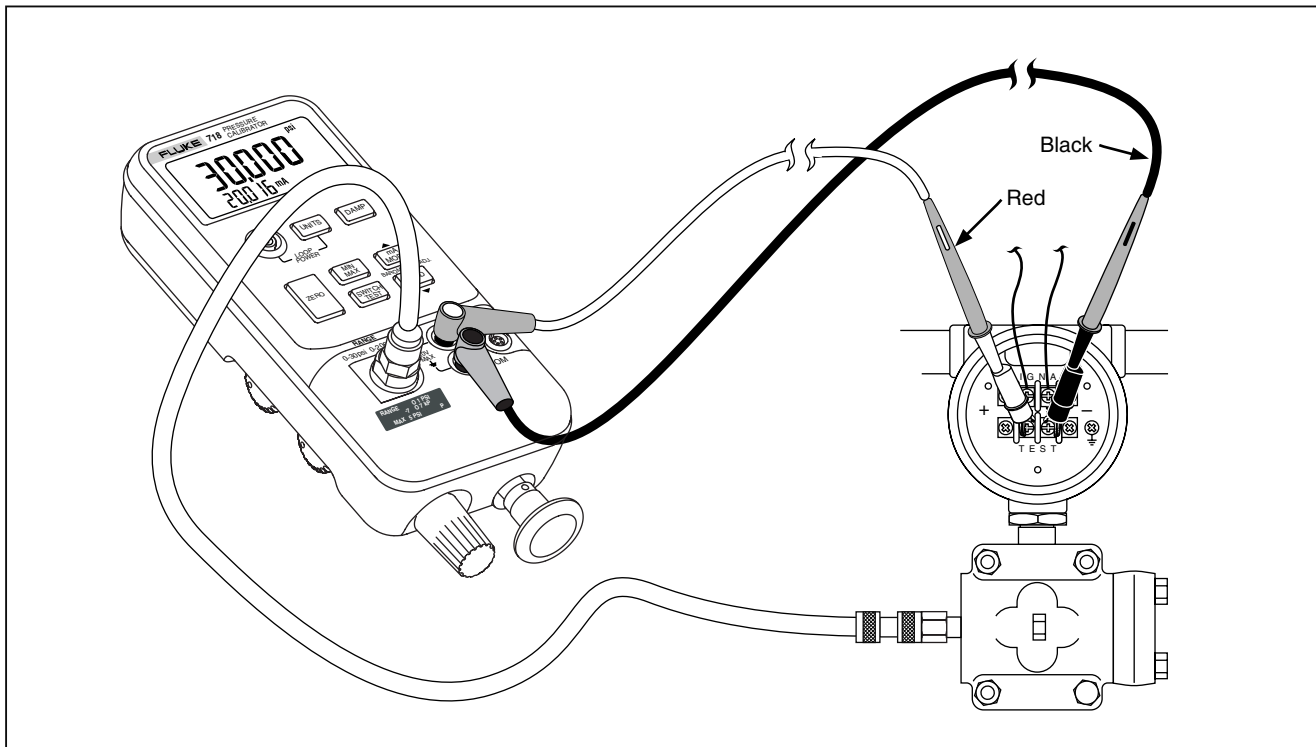

Figure 4. Internal Pressure Sensor with Internal Pump
The preferred use for the internal pump is shown in Figure 4, where the Calibrator displays pressure measured with the internal sensor and provided by the internal pump.
2. Connect the pressure transmitter to the Calibrator internal sensor as shown in Figure 4 (for internal pressure sensor measurements) or Figure 5 (for pressure module measurements.)